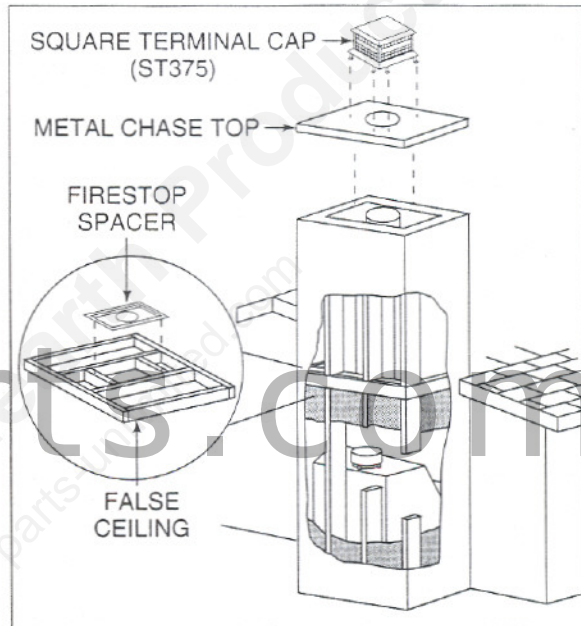

Figure 23 - Chime Assembly
- In cold climates, the walls of the chase should be insulated to the level of the false ceiling as shown in Figure 23. This will help prevent heat loss from the home around and through the fireplace.